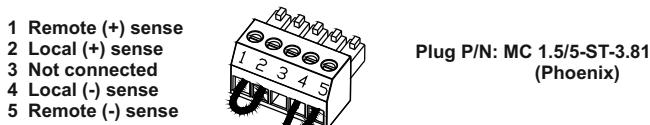

Fig.3-5: Sense connector default connection
-Sense connector : Configured to Local Sense as shown in Fig.3-5: